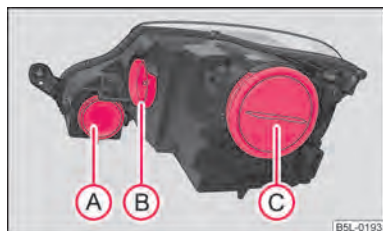

Fig. 181 Front headlight: Fitting position of the bulbs
Positions of the light bulbs in the front headlight ⇒ fig. 181.
- Remove the rubber protective cap Ⓑ ⇒ fig. 181.
- Remove the rubber protective cap (A) ⇒ fig. 181.
- Unplug plug (1).
- Take the faulty bulb out of the fixture (2) by pressing the light socket downwards and insert a new one.
- Take the faulty bulb out of the fixture (2) by turning in direction of arrow and insert a new one in the reverse procedure.